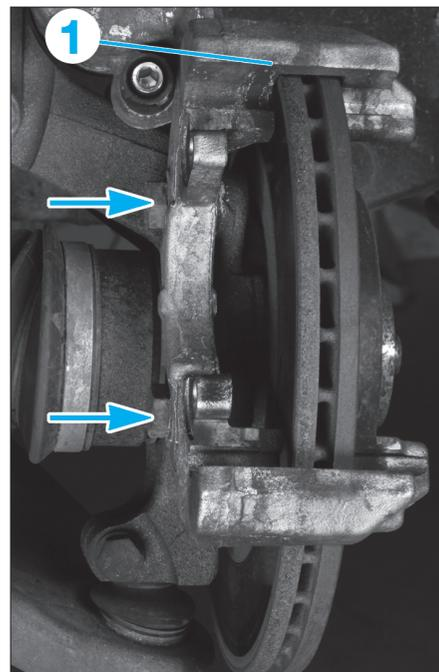

Fig. 12
- le support d'étrier (1) de frein (Fig.12),